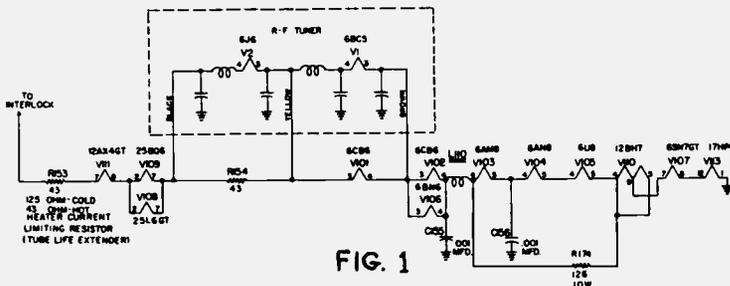

FIG. 1
- R156, R157, and R158, filament shunt resistors (43 ohm, 10%, 2 watt), are replaced by R174, 125 ohm, 10%, 10 watt resistor, Part No. 158230. The change in the schematic is given in Figure 1. Chassis 426 incorporating this change are stamped with code letter F or later.